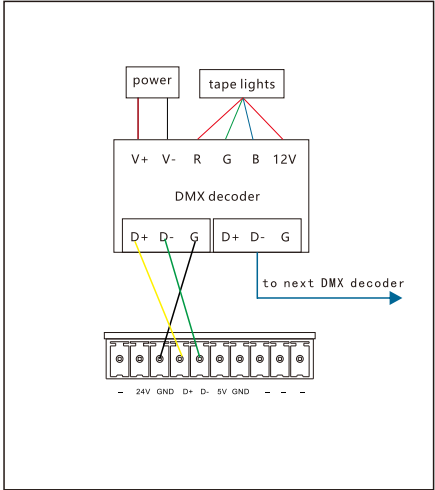

Figure 7.DMX512 intelligent module wiring
Product Wiring: See Figure 7 and 8
2. DMX512 interface: 24V and 5V are the output voltages (see Figure 7).